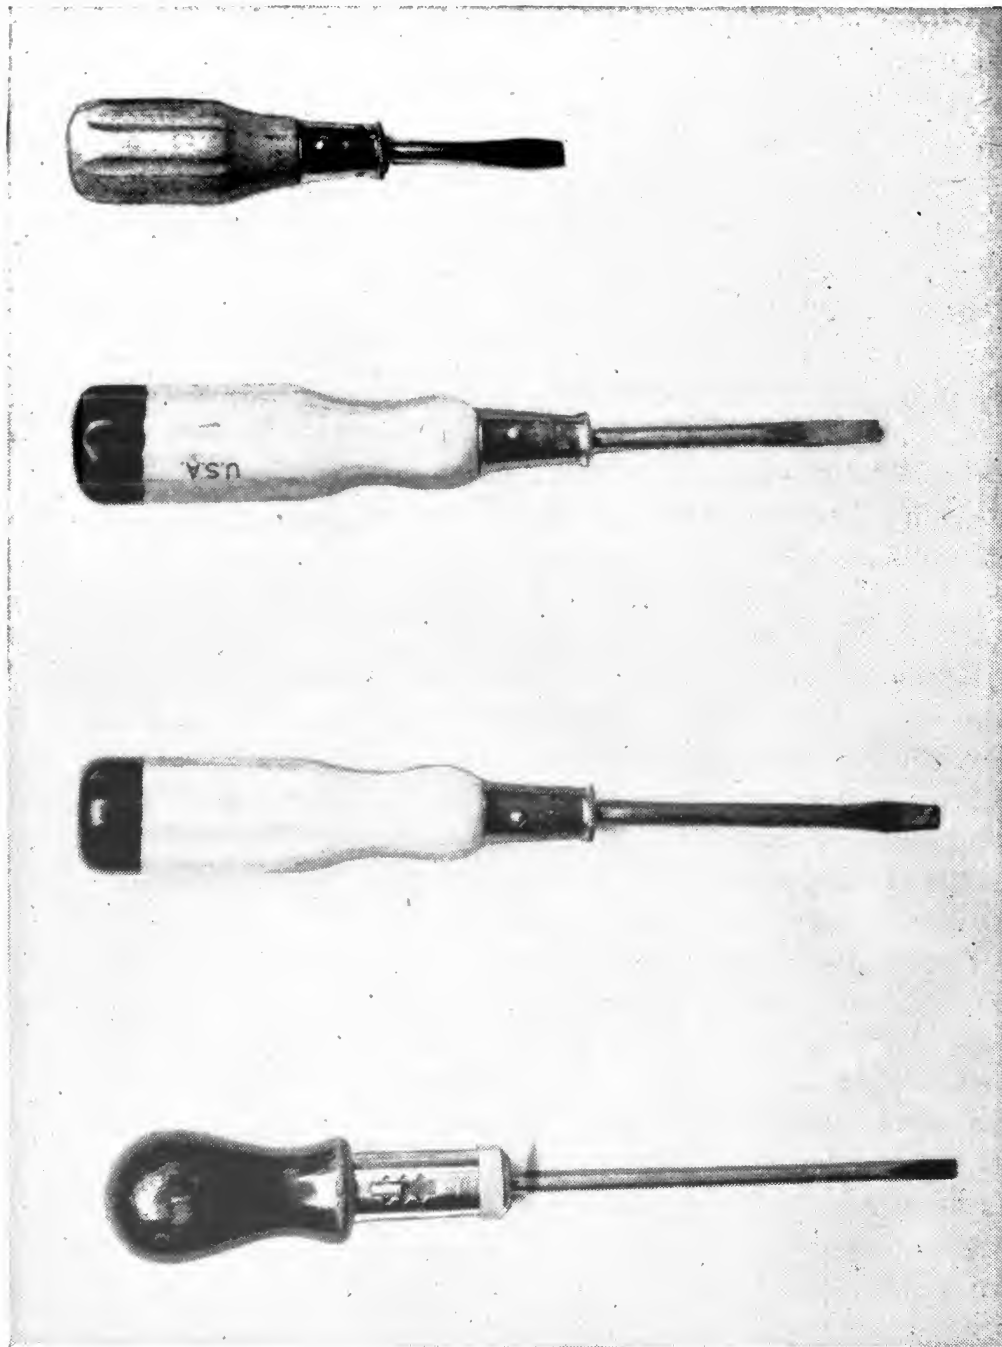

FIGURE 3.—Screw drivers.
**6. Screw drivers.**—*a.* The appearance of the common screw driver is familiar to everyone. It is an important tool and one frequently misused. The screw driver is a tool the blade point of which is designed to fit into and nearly fill the slot in the head of the screw; turning the screw driver tightens or loosens the screw. The screw driver is wrongly used for prying, opening boxes or as a chisel. Figure 3 shows an assortment of screw drivers.